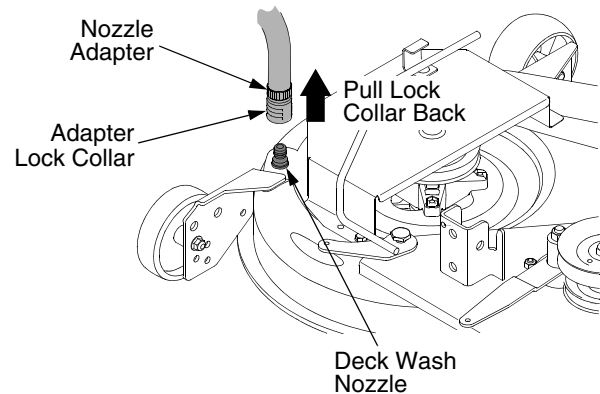

Figure 53
- Pull back the lock collar of the nozzle adapter and push the adapter onto one of the deck wash nozzles at either end of the mower deck. Release the lock collar to lock the adapter on the nozzle. See Figure 53.